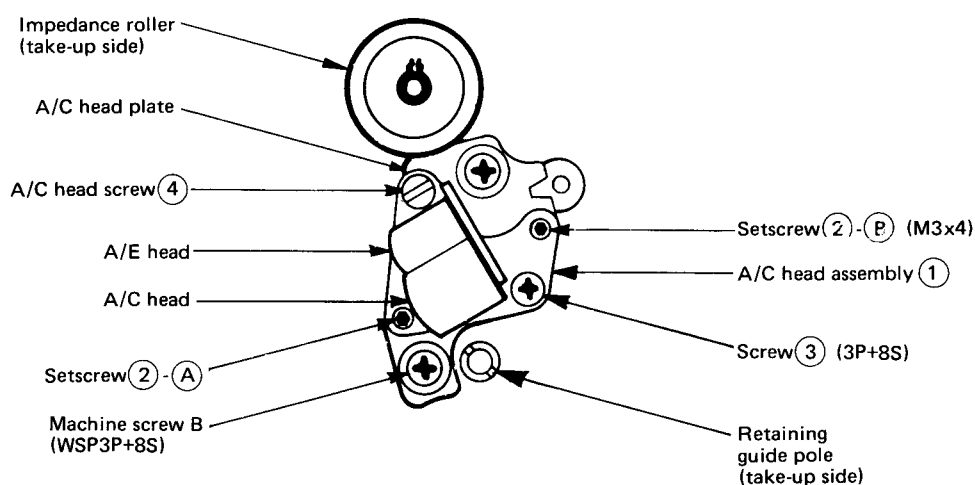

Figure 72.
If alignment is required proceed with the following adjustment. See Figs. 72 and 73.
4. If the tape running is not normal, adjust the screws ② - ① and ② - ② shown in Fig. 72 while turning them slowly.